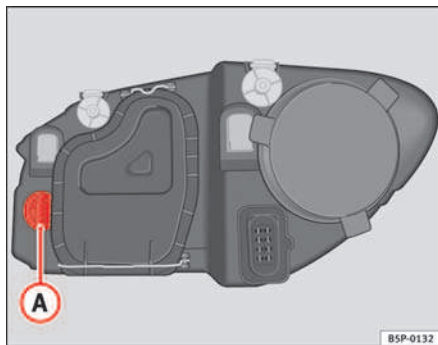

Fig. 174 Turn signal lamps
- Rotate the lamp holder ⇒ fig. 174 **A** to the left and pull.